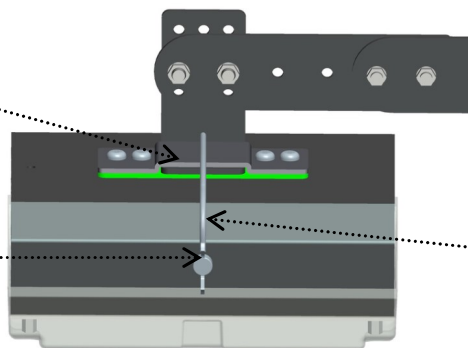

FIG.3
**If the metal cord is not tight, adjust the length of it and make sure it's tight, such that the LED head is firmly locked with the bracket.** The butterfly screw can be used without tool (see FIG 3).